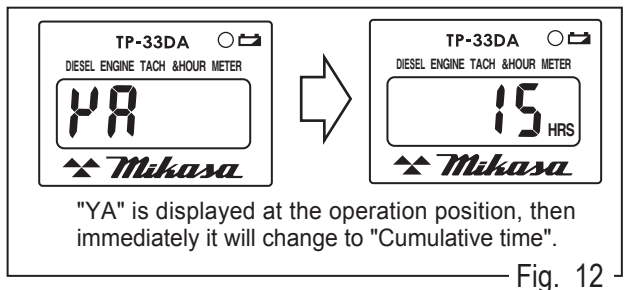

Fig. 12
The buzzer starts. After "YA" is displayed on hour tachometer, the display will change immediately to "Cumulative time".(Fig.12)
- Returning the throttle lever forward causes the engine to stop. In case of starter motor type, return the key switch to STOP position also as soon as engine stops. (Fig12)